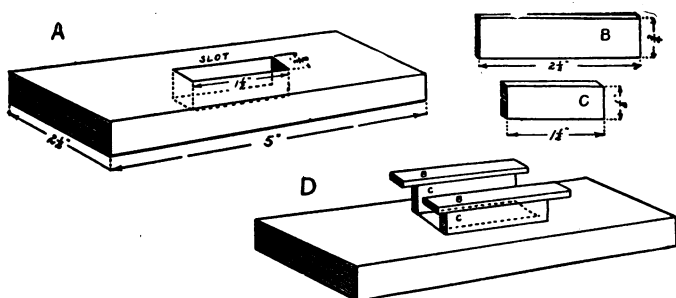

FIG. 102. — A, Base, showing Slot. B and C, Sides and Top of the Bobbin. D, Base and Bobbin in Position.
* When they are firmly in position, glue a strip of wood, two and one-half inches long, three-quarters of an inch wide and one-eighth inch thick to the top as shown by D in Figure 102.